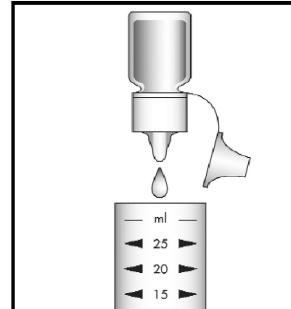

Figure3
2. Add 5 drops of A-6000 Activator Solution (Figure 3). Stir briefly. Wait 4 minutes.